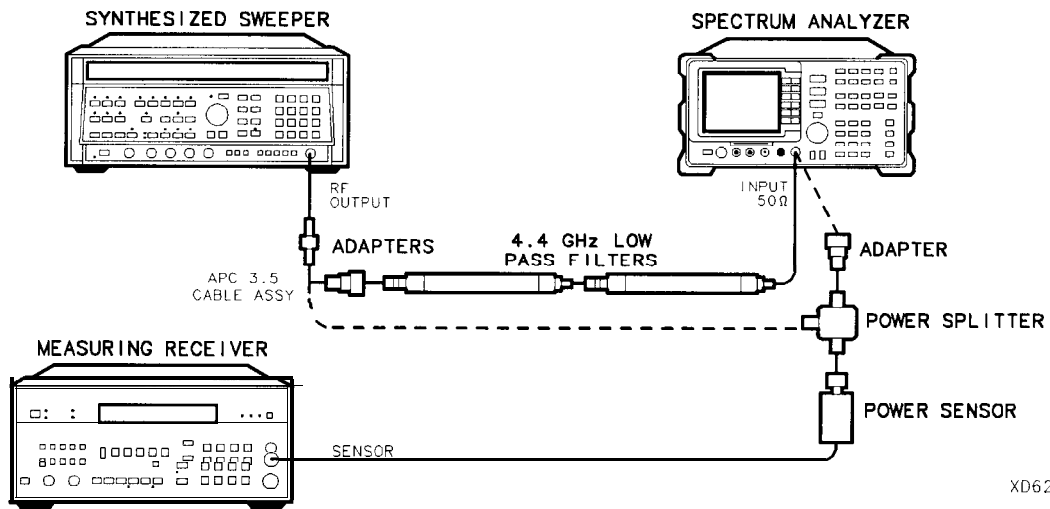

Figure 2-57. Second Harmonic Distortion Test Setup, >2.9 GHz
- VID AVG ON OFF (ON) 10  $\boxed{\text{ENTER}}$
13. Connect the equipment as shown in Figure 2-57, with the output of the synthesized sweeper connected to the input of the power splitter, and the power splitter outputs connected to the spectrum analyzer and the power sensor.
- Connect the equipment as shown in Figure 2-57 with the filters in place.